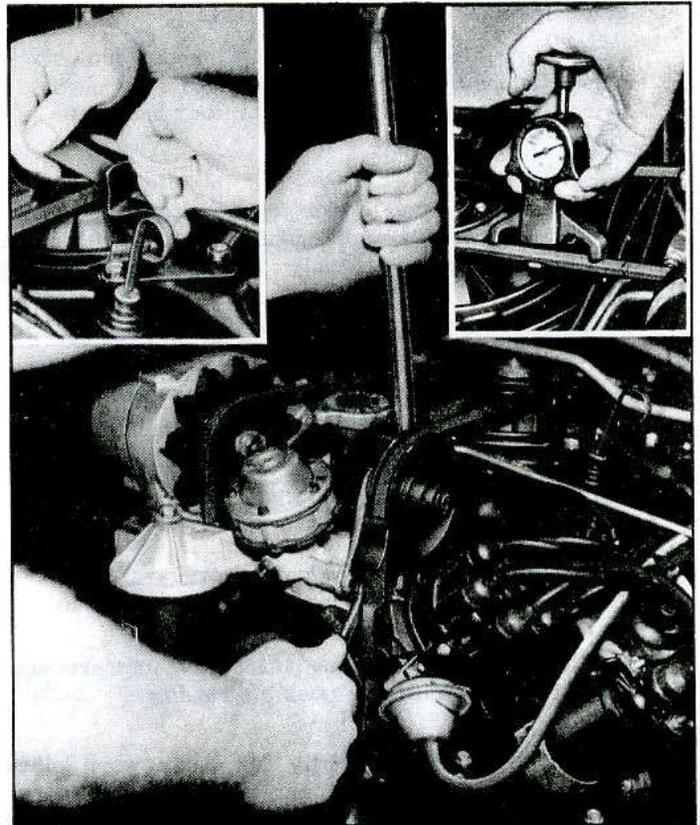

Fig. 4—Blower Belt and Guide Adjustment
- Place a 1/16" shim between belt and rear guide (fig. 4), then using a bar and a strand tension gauge adjust blower belt. Fifty-five lbs. ±5 lbs. (used belt), 75 lbs. ±5 lbs. (new belt) and tighten securely.
- Remove shim from between blower belt and rear guide and using shim as a gauge adjust upper guide (fig. 4) and tighten securely.